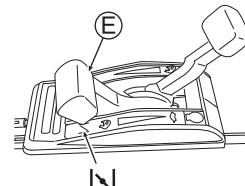

Fig. 12
3. Set the throttle lever (E) to choking "↖". (See Fig. 12) (The engine can start by setting the lever at "↖" when it is warm.)